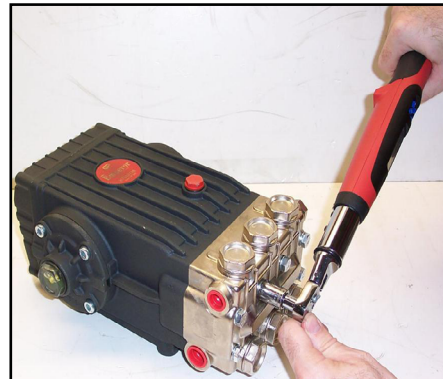

Figure 18. Torque Bolts to 22 ft. lbs
2. Re-install manifold and torque the fasteners in an “X” pattern to 50% of specification and then retorque to 100% specification (see Figure 17 and Figure 18).